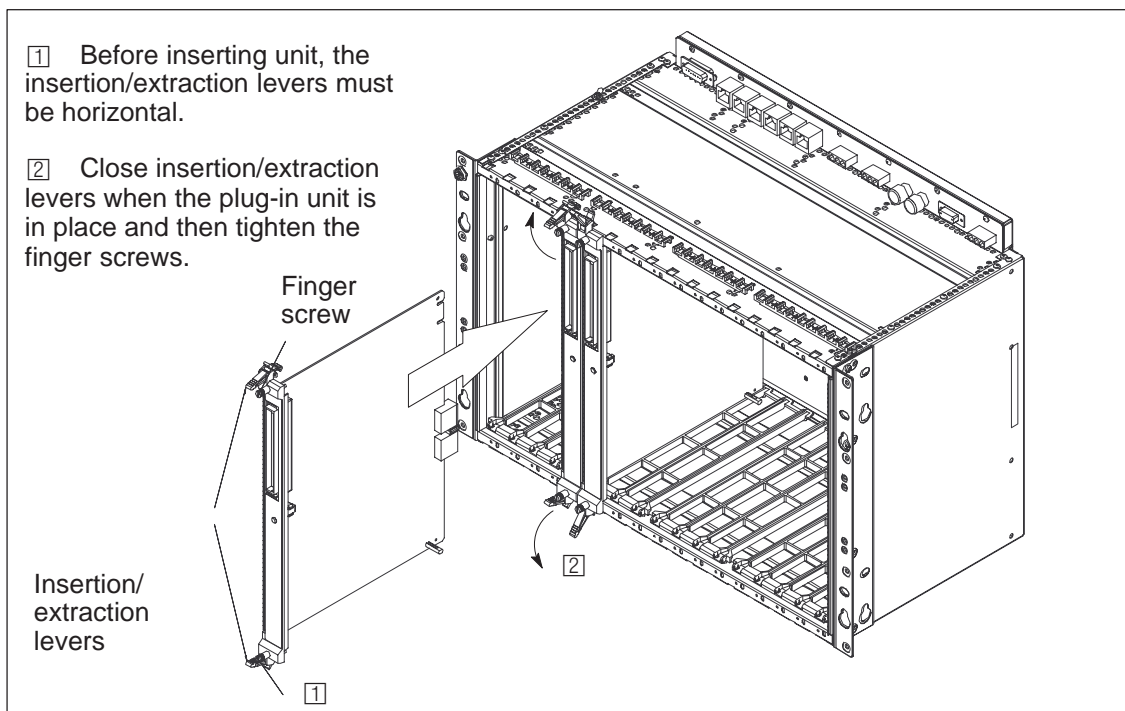

Figure 49 Inserting a plug-in unit into a subrack
► Inserting a plug-in unit (see Figure 49):